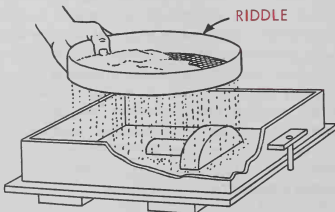

Fig. 9-5. Riddling molding sand over pattern.
3. Set the riddle on top of the drag and fill it with sand. Riddle the sand over the pattern until it is covered 1 in. or more, Fig. 9-5.